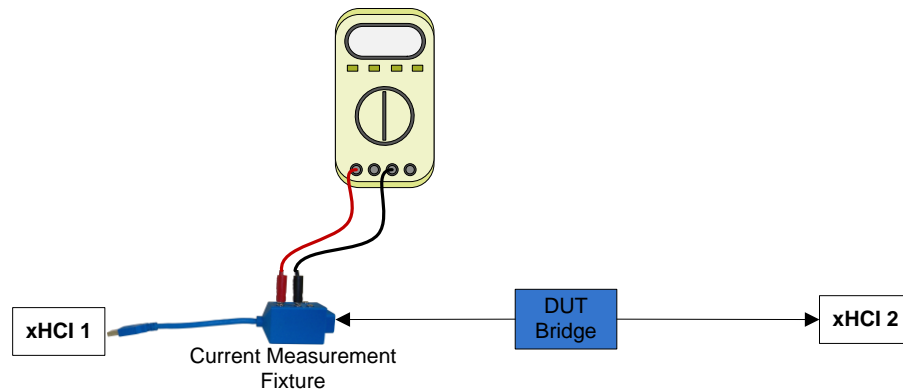

Figure 2-6: Current Measurement Topology
- Connect a SuperSpeed Current Measurement Fixture to one side of the DUT and connect the current measurement fixture to xHCI 1. Connect the other side of the DUT to xHCI 2. Connect a Multimeter to the fixture. See Figure 2-6.